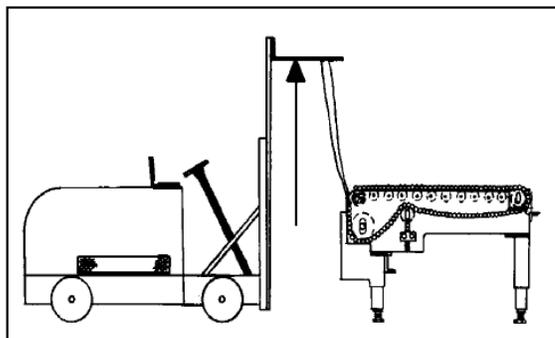

Fig. 4 Use a Forklift To Bring Belt Ends Together
6. Using a forklift, hoist, etc., pull the wire loop upwards until the wire mesh belt ends meet (Fig. 4).